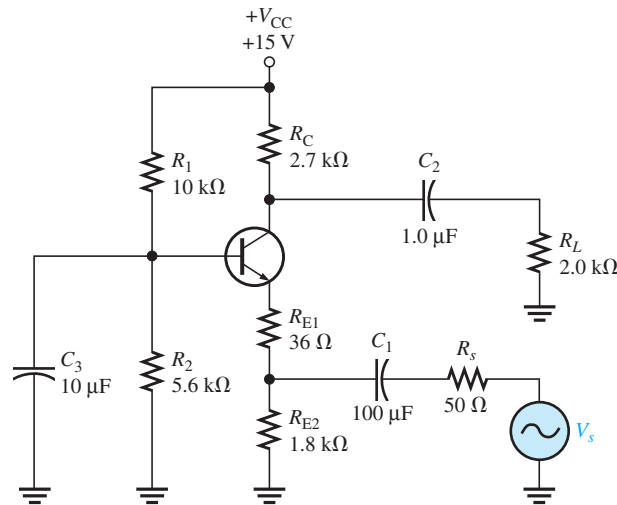

FIGURE 3-77
- 30. For the CB amplifier in Figure 3-77, compute the following: V_B , V_E , V_C , V_{CE} , r'_e , A_v .
- 31. For the CB amplifier in Figure 3-77, compute the input resistance, $R_{in(tot)}$.
- 32. For the CB amplifier in Figure 3-77, what is the purpose of R_{E1} ?